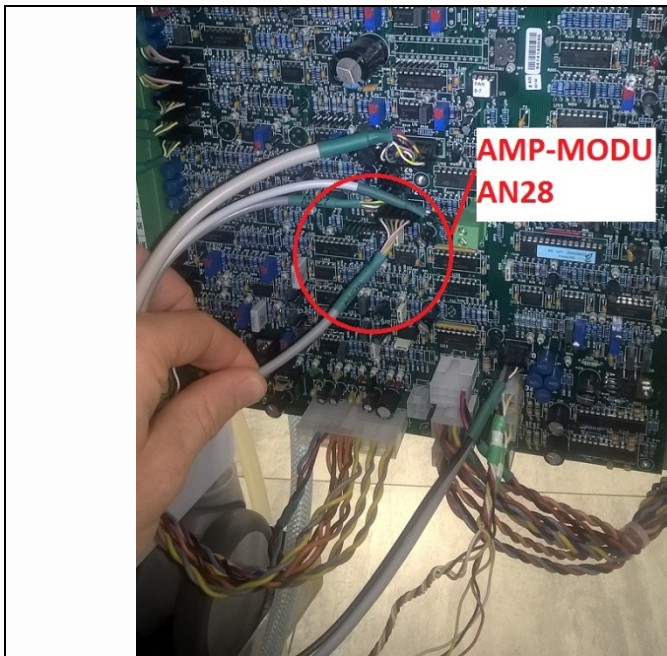

Fig. 32
34. If not already connected, connect the cable marked as AN28 onto the analogic board, **(Fig. 32)**.